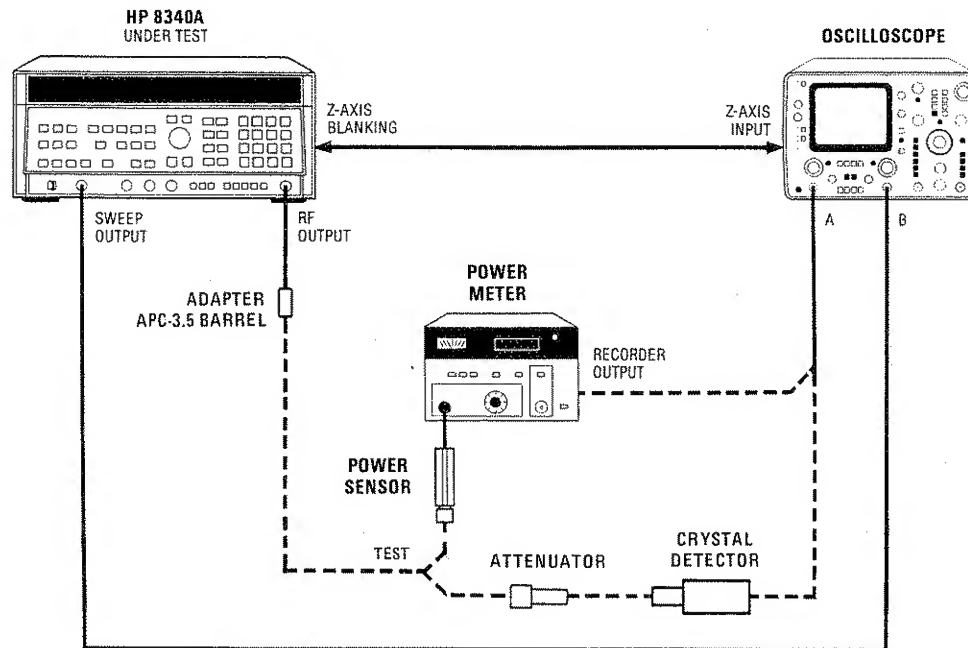

Figure 4-5. Maximum Leveled Output Power and Power Accuracy Test Setup.
1. Connect the equipment as shown in Figure 4-5. Connect the 10 dB pad and crystal detector to the 8340A RF output and connect the detector output to the oscilloscope channel A input. Allow at least 30 minutes warm up time.